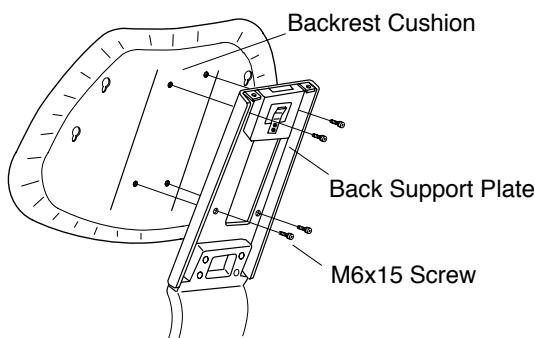

Fig.3-7-3 Fixing Backrest Cushion
(5) Fix the backrest cushion to the back support plate with four pan screws (M6-15) (**Fig.3-7-3**)